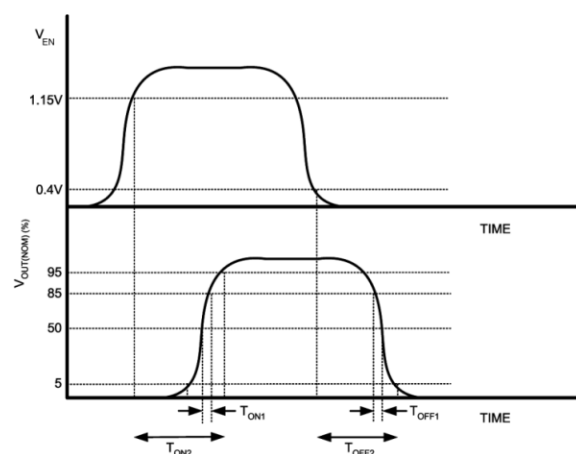

Figure 1. t_{ON} and t_{OFF} Timing Diagram
- (1) This electrical specification is ensured by design.
- (2) Time for V_{OUT} to rise from 50% to 85% of $V_{OUT(NOM)}$ (Figure 1).
- (3) Time from $V_{EN} = 1.15$ V to $V_{OUT} = 95\%$ ($V_{OUT(NOM)}$) (Figure 1).
- (4) Time for V_{OUT} to fall from 85% to 50% of $V_{OUT(NOM)}$ (Figure 1).
- (5) Time from $V_{EN} = 0.4$ V to $V_{OUT} = 5\%$ ($V_{OUT(NOM)}$) (Figure 1).